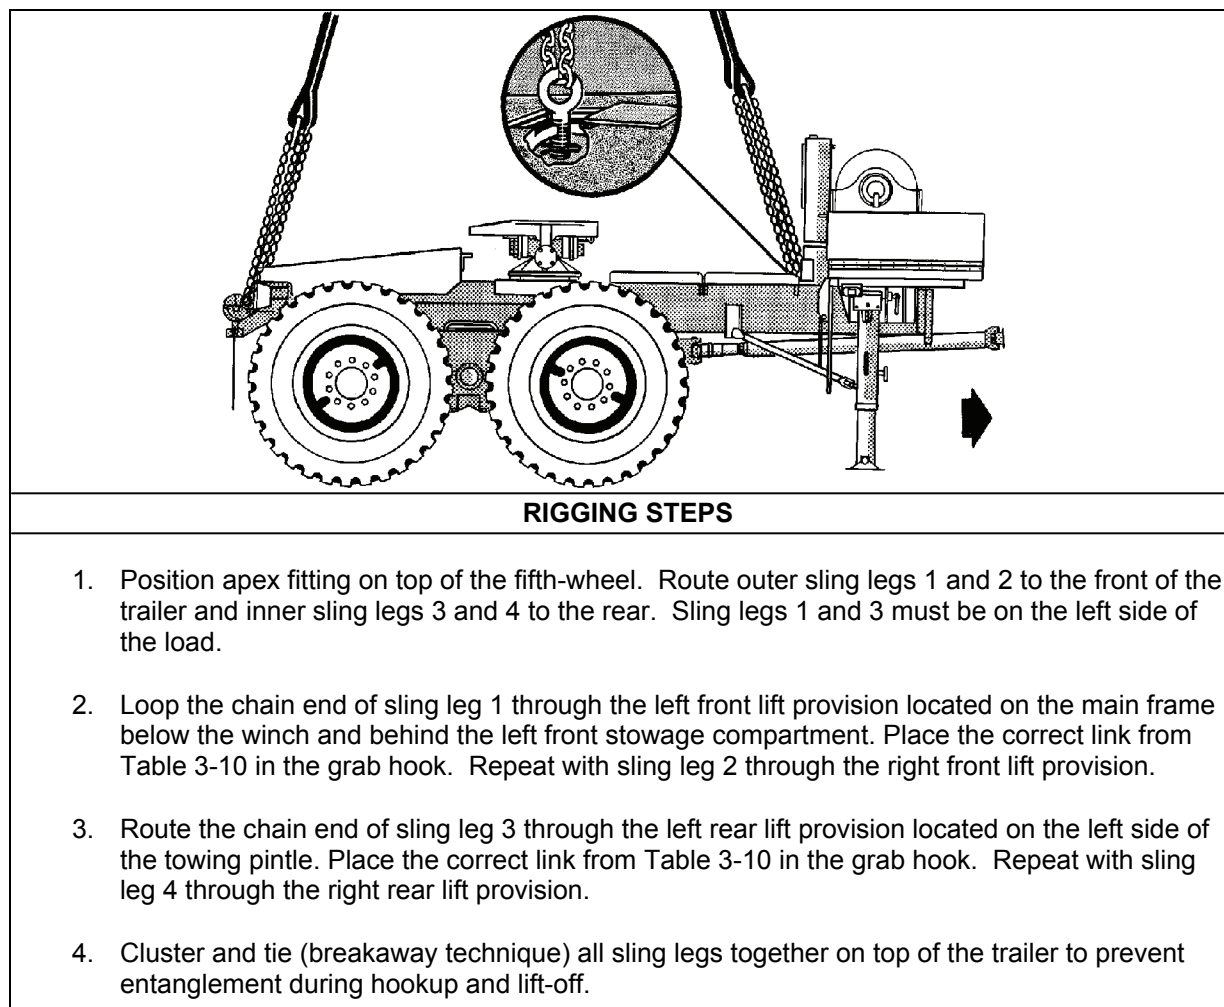

Figure 3-10. Mk16 Fifth Wheel Adapter Trailer
- **Rigging.** Rig the load according to the steps in Figure 3-10.